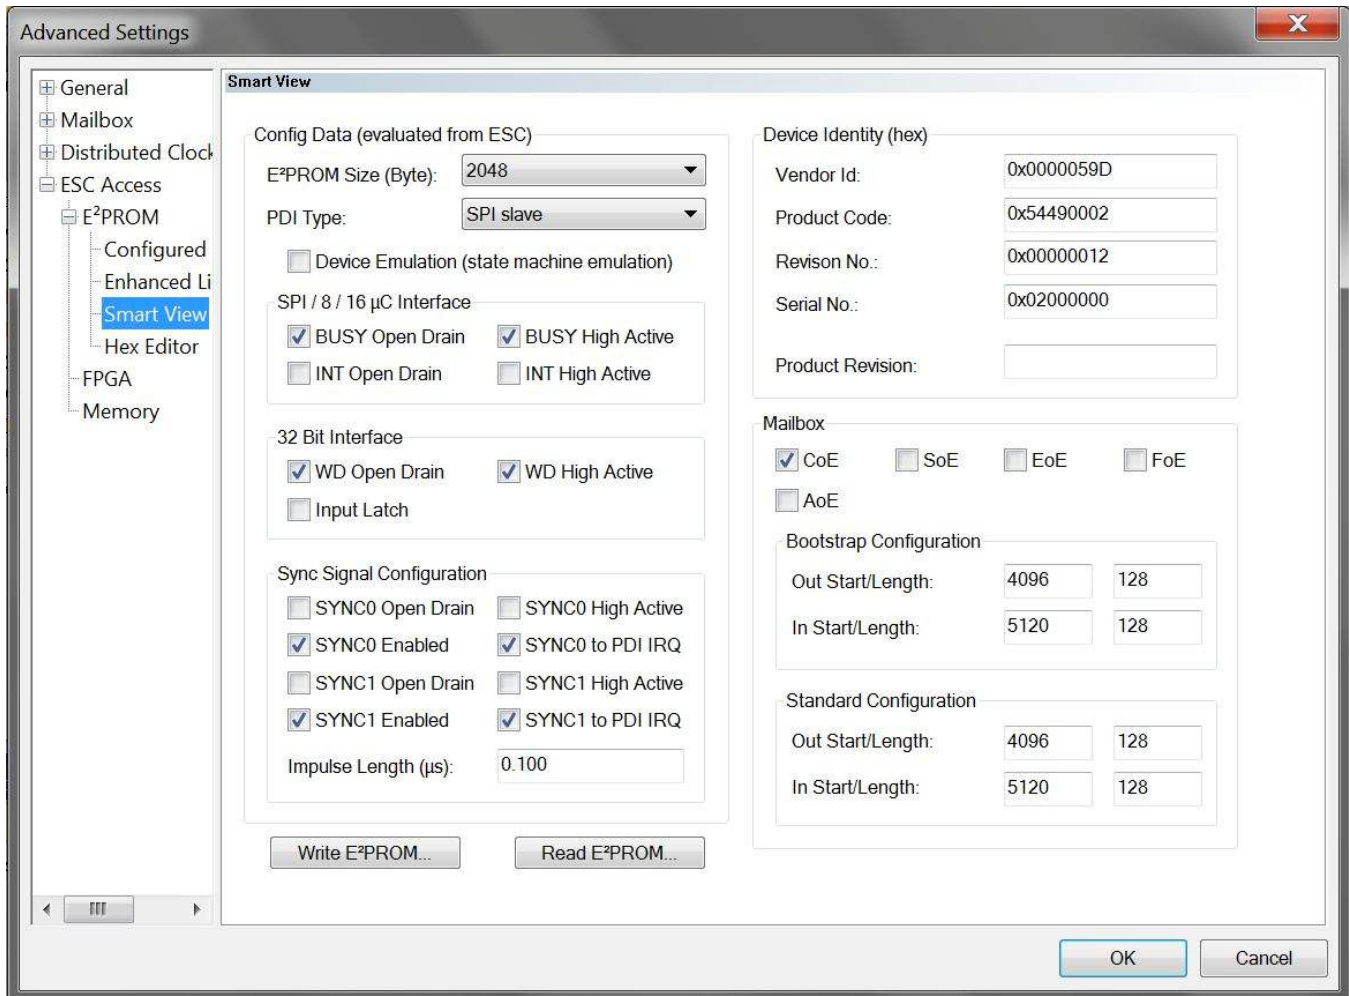

Figure 29. TwinCAT "Smart View" Slave Properties Window Showing Programmed EEPROM
- After TwinCAT writes the EEPROM (in this case for the SPI), the following “Smart View” window showing a valid configuration with PDI Type = “SPI slave” should appear (see Figure 29).